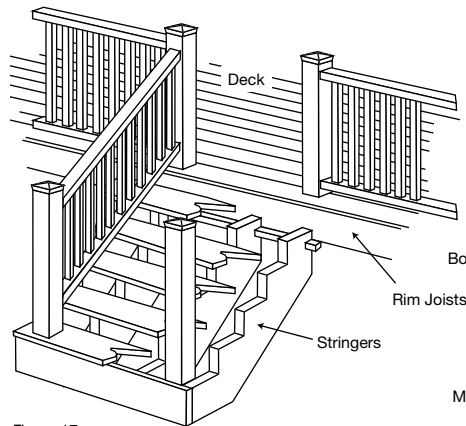

Figure 17
1. Position two line posts at top of stairway with the desired spacing and secure each post with the appropriate installation method (Figure 17).